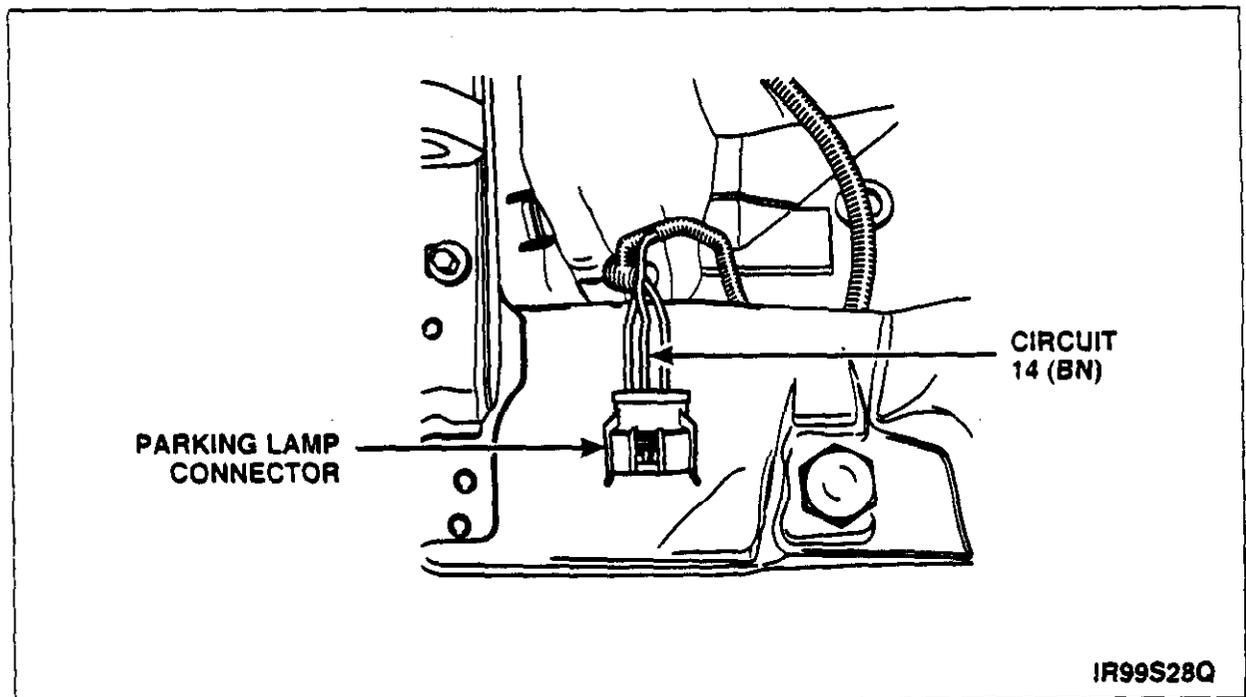

FIGURE 17
22. NOTE: The *new* relay jumper harness has two circuit 14 (BN) wires, one with a terminal end installed, and one without.
Remove the circuit 14 (BN) wire from the outboard parking lamp connector, then cut the terminal off the end of the wire. Then, in its place, install the circuit 14 (BN) wire with the terminal end, from the *new* relay jumper harness. See Figure 17.